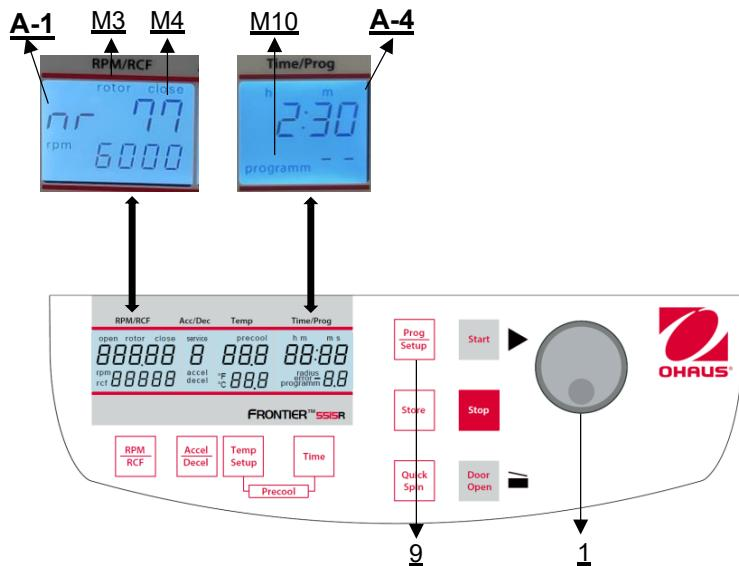

Figure 25
To recall stored programs, press the key "Prog/Setup" (9) (see Figure 25) while the lid is already closed. Inside the display "Time/Prog" (A-4), "program--" (M10) appears. The desired program number can be pre-selected with the adjusting knob (1).
To leave the program mode just press the key "Prog/Setup" (9) (see Figure 25). Then inside the display "Time/Prog" (A-1) the word "programm" (M10) appears. Set the display to "programm--" (M10) with the adjusting knob (1).